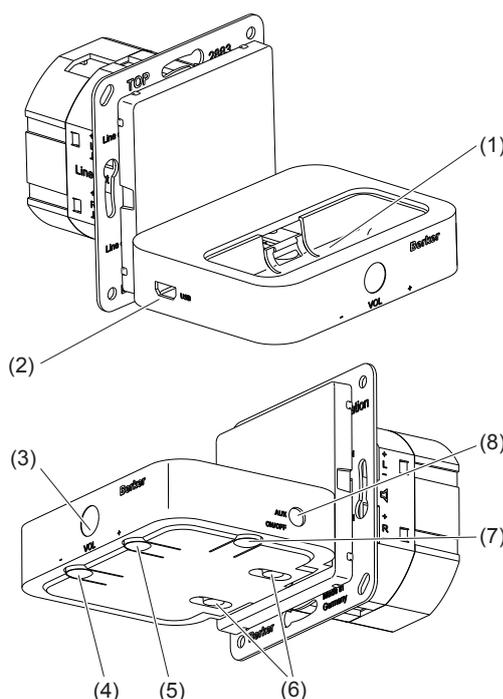

Figure 1: Docking station
- Attach the device to the 30pol multipoint connector (figure 1, 1) of the device holder.
- Insert 3.5 mm jack of the device into the socket **AUX** (figure 1, 8).
- Press changeover switch **ON/OFF** (figure 1, 7).
The-LED display (figure 1, 3) lights up. The playback can be started by means of the device.
- Press **VOL +** (figure 1, 5) button or **VOL –** (figure 1, 4) along the bottom of the device holder.
- Insert USB charger cable of the device that is to be charged into the mini USB charging socket (figure 1, 2).